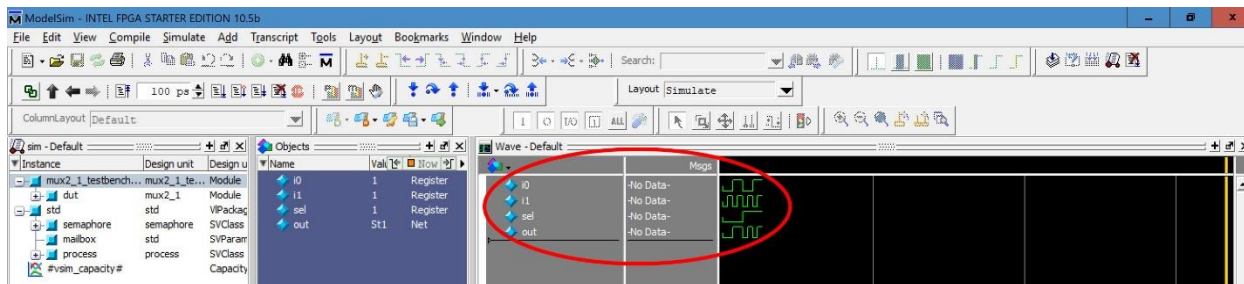

Figure 7: Simulation results shown in the Wave pane.
- 3) **View the results in the Wave pane (Figure 7).** Time moves from left (start) to right (end), with a green line for each input and output of the design. When the green line is up, it means that signal is true; when the green line is down, it means the signal is false.